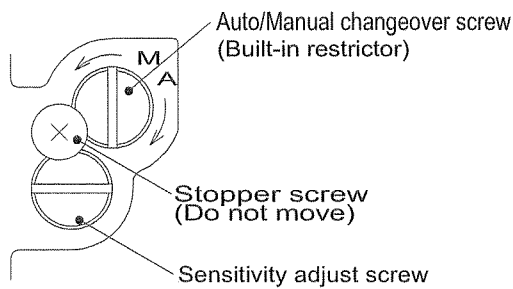

Fig.17 Pilot valve
- (1) To operate the diaphragm valve manually, turn the Auto/Manual changeover screw of pilot valve towards M. The supply pressure and OUT1 output are conducted and the stroke can be adjusted by using the supply pressure setting reducing valve.(Refer to fig.17 Pilot valve)
- (2) To operate based on the input current, tighten the Auto/Manual changeover screw towards A. The screw is tightened up in the A direction when the positioner is shipped from our plant. (Refer to fig.17 Pilot valve)